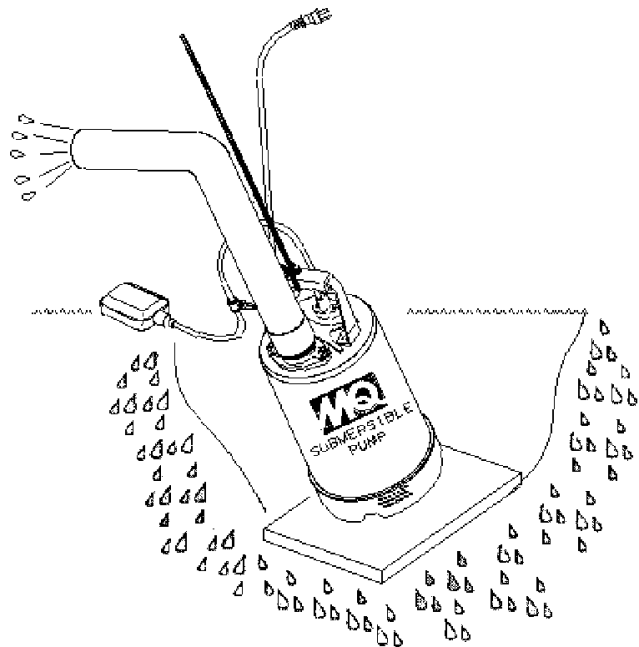

Figure 7. Submersible Pump Upright Position (Incorrect)
2. Make sure the pump is always placed in an upright position, not tilted (Figure 7). Never position the pump directly on a soft, loose bottom. Remember to attain maximum pumping capacity and prevent excessive wear, position the pump so it will not burrow itself into sand or clay.